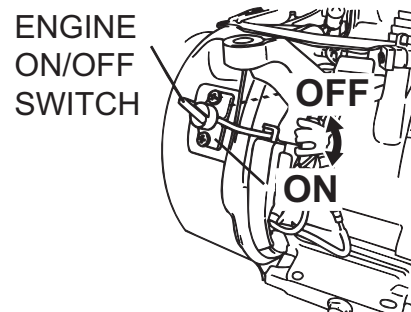

Figure 7. Engine ON/Off Switch
10. Place the Engine ON/OFF switch (Figure 7) in the "ON" position.
2. Place the Engine ON/OFF switch (Figure 7) in the "**OFF**" position.